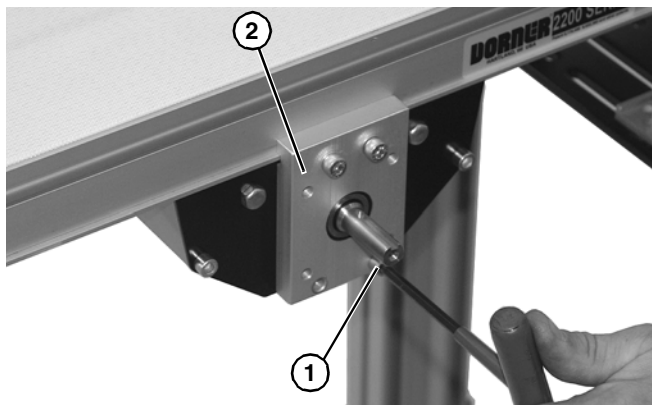
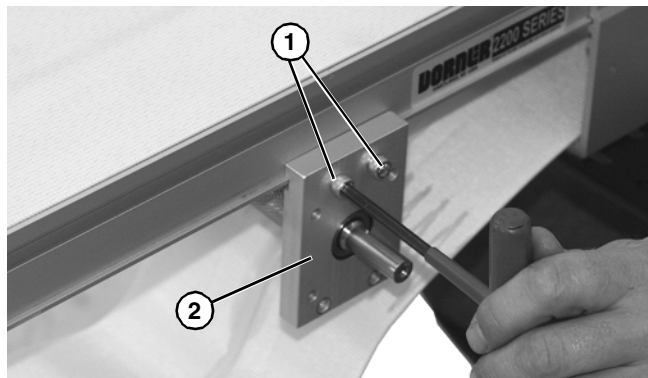

Figure 69
Figure 71
3. Loosen one M6x25 socket head screw (**Figure 69, item 1**) from each side of mounting block (**Figure 69, item 2**).
5. Loosen two M6x25 socket head screws (**Figure 71, item 1**) from each side of mounting block (**Figure 71, item 2**).
10. Tighten socket head screws (**Figure 69, item 1**) and (**Figure 71, item 1**) to 60 in-lb (7 Nm).